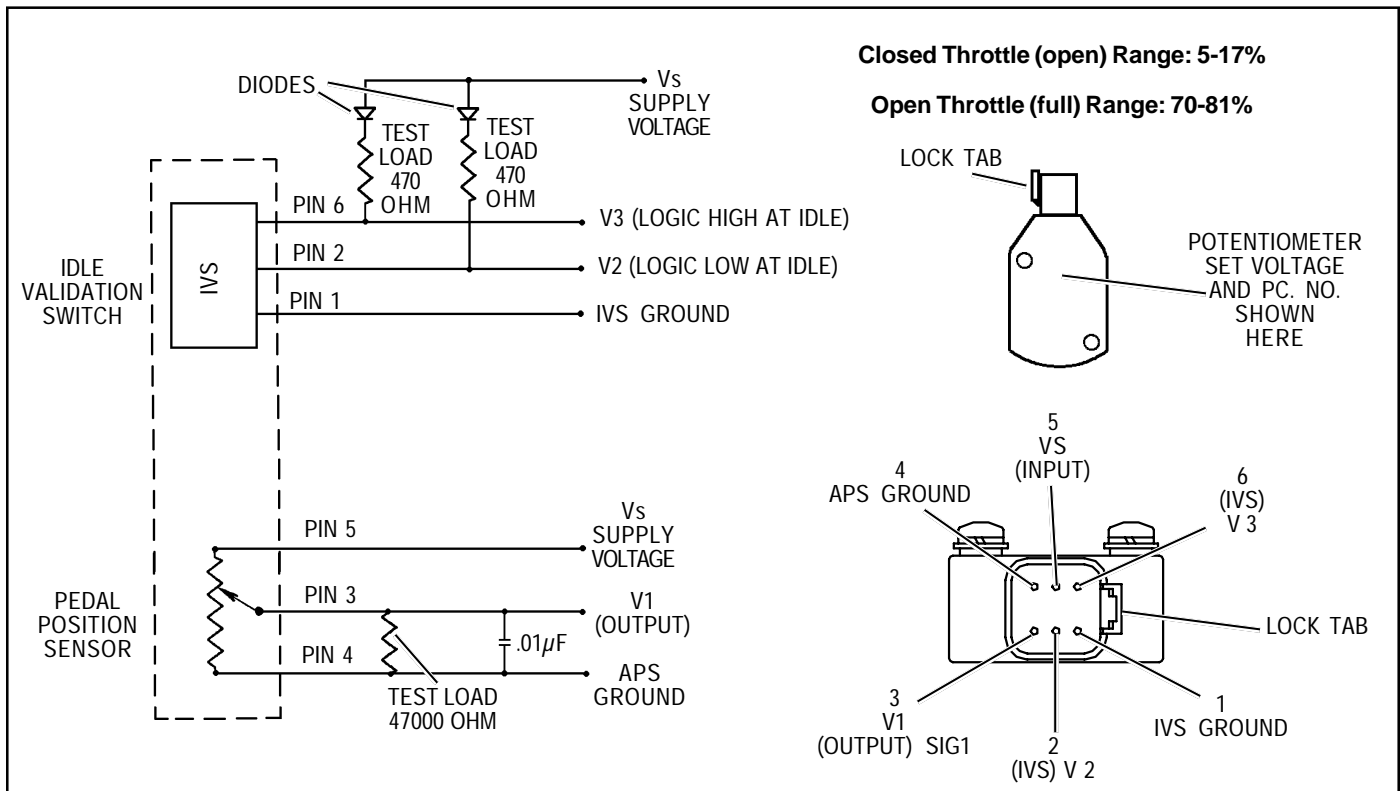

FIGURE 2 - ELECTRICAL TEST SCHEMATIC FOR THE CUMMINS CONNECTOR
- c. Verify that the closed throttle (idle) output voltage, as a percentage of supply voltage, is within the limits listed in Figure 2. For example, with a supply voltage of 5 volts, for the Caterpillar Potentiometer in its closed throttle position, read between 0.5 to 1.0 volts (10%-20% of supplied voltage).
- d. Depress the Treadle to its full throttle position. The output voltage, as a percentage of supply voltage, should be within the limits listed in Figure 2. For example, with a supply voltage of 5 volts, for the Caterpillar Position Sensor in its open throttle position, read between 3.75 to 4.5 volts (75-90% of supplied voltage).